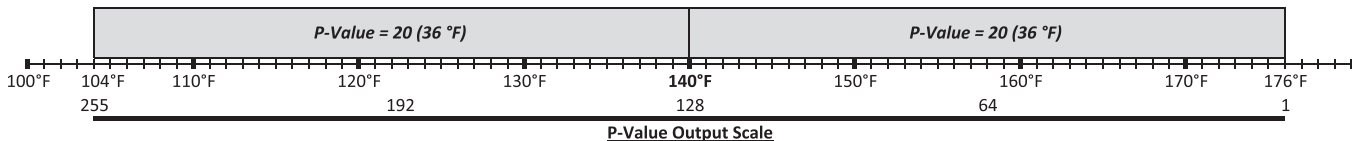

Figure 8.55: P-Value Output
- e) Figures 8.55 and 8.56 show how the P-Value, Max Offset Up and Max Offset Down values affect the dependent boiler setpoints.
- ii) The control scales the actual supply temperature to a 1-255 scale in the range defined by the target temperature and the P-Value. From Figure 8.55 we can see that if the supply temperature is above 176°F the output from the P-Value will be 1.